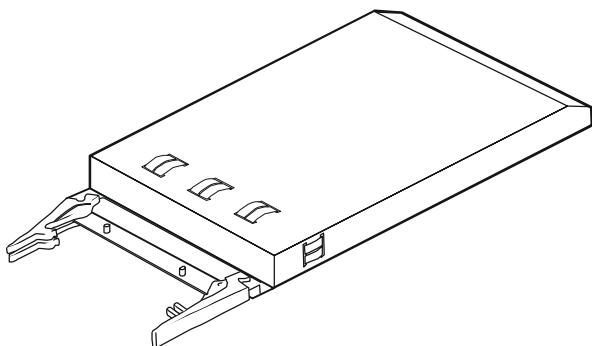
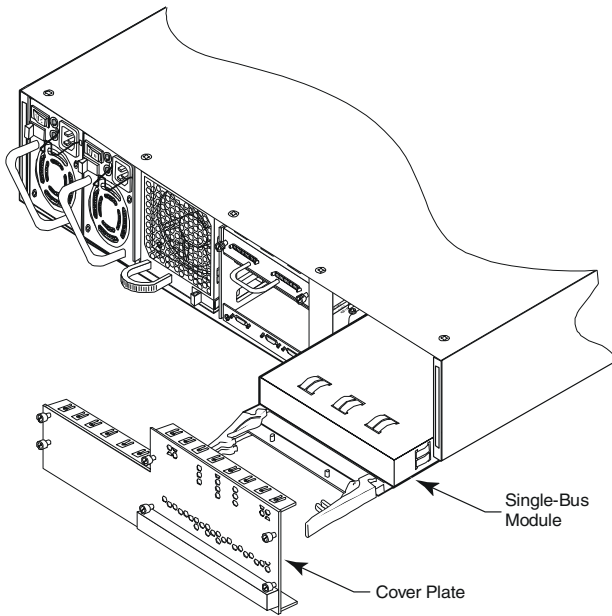

Figure 5-6 Single Bus Module
Figure 5-7 Installing the Single Bus Module and Cover Plate
- 2 Install the single-bus RAID controller and canister module (Figure 5-6) into the Controller 1 slot (Figure 5-7).